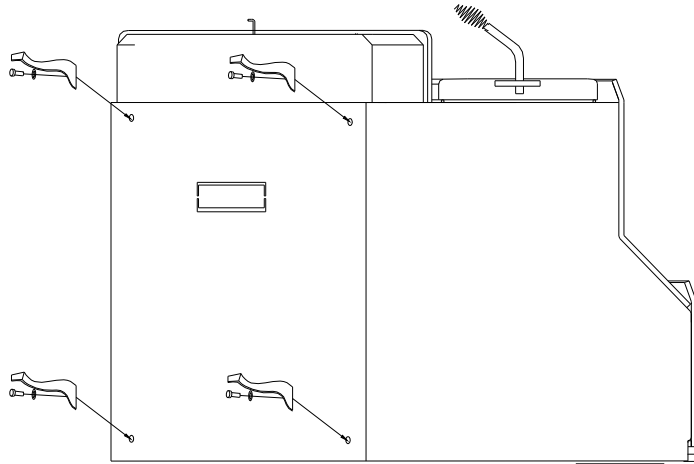

Figure 25.
5. Then obtain four legs, attach the legs to holes in bottom of unit with bolts and washers supplied with the leg kit. (See Figure 25).